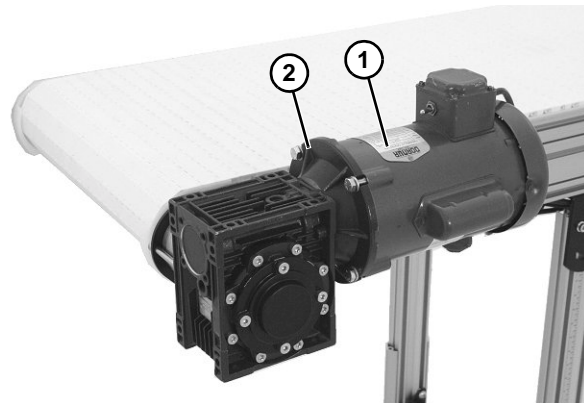

Figure 29
1. Attach the motor (**Figure 29, item 1**) to the gear reducer (**Figure 29, item 2**). (End Drive shown below.)